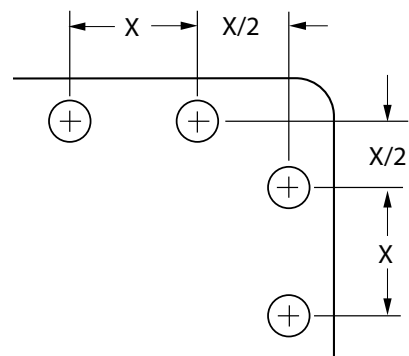

Figure 1-8. Fastener Location Near Corners
**Fasteners should be located such that pressure distribution is uniform at the corners (see Figure 1-8).**